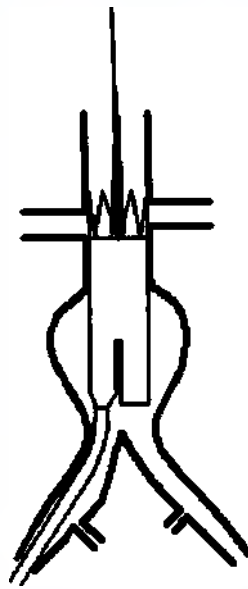

Fig. 8 Pull the Proximal Releaser
- ✧ Pull the Proximal Releaser to release the proximal spring of the stent graft. **(Fig. 8)**